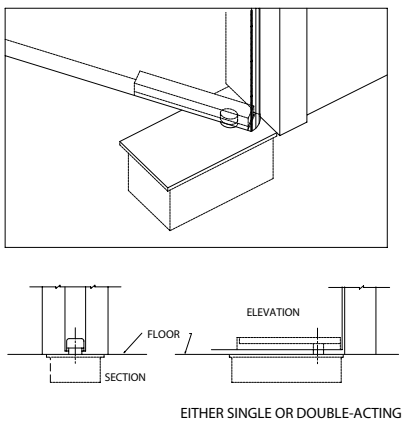

**FIGURE 14a**
2. Floor Closers, Figures 14a-14c, generally are more durable than overhead closers and provide concealed closing mechanisms, often appropriate for doors having a high frequency of use.